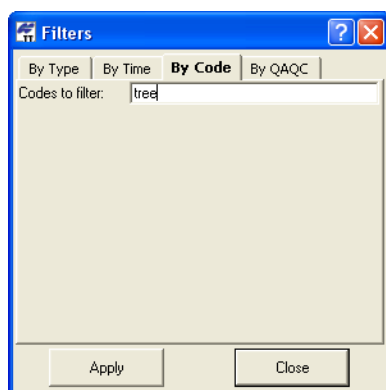

Figure 4-59. Select By Feature Filter
2. On the *By Code* tab, type the name of the code/feature to filter data by (Figure 4-59 on page 4-58).